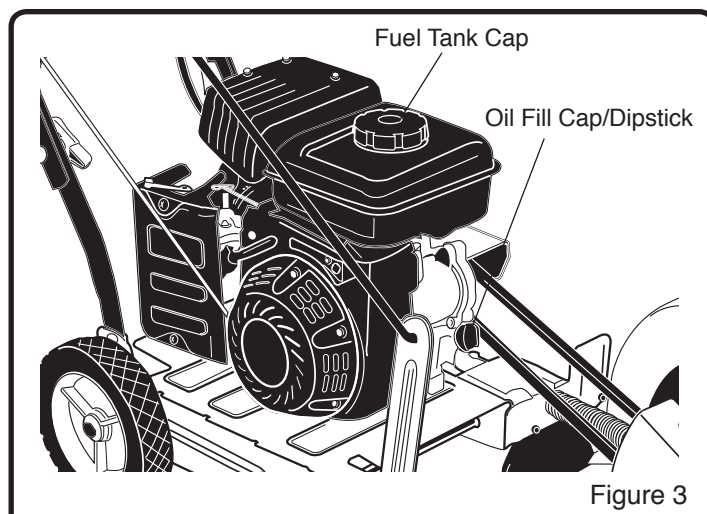

Figure 3
2. Remove the oil fill cap/dipstick and wipe clean with cloth. (See Figure 3)
1. Clean surface around fuel tank cap to prevent contamination. (See Figure 3)